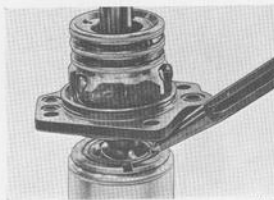

Fig. 6-97. Locking circlip
Warning! The worm must not be pulled so far out of the piston that the balls run out (into the piston). Tighten the circlip (27) and lock it, see Fig. 6-97. When doing this, protect the worm to make sure that no metal filings get into the piston.